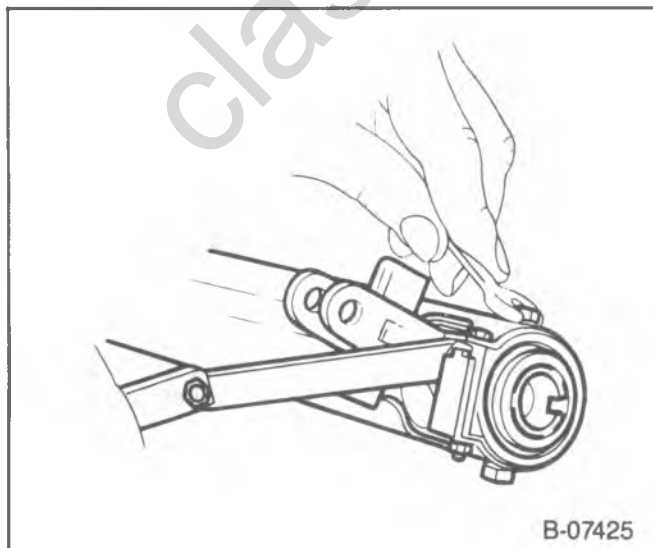

Figure 51—Shift Tube Adjustment—3 Speed Manual Transmission
1. Loosen clamp bolt (317).
3. Adjust the clamp to obtain a clearance of 32 ± 0.5 mm (1.26 ± 0.02 inch) (figure 51).
1. Loosen the adjusting ring bolts (306).
2. Loosen the clamp bolt (317).
3. Rotate the adjusting ring to give a 0.13 mm (0.005 inch) end play between the adjusting ring and first and reverse lever (figure 51).